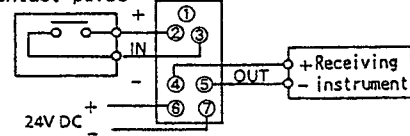

Fig. 12 Diagram 3
- ④ To receive current pulse by generating internal power supply, connect input cable to repeater terminals 1(+), 2(-). (See Fig. 12 : Diagram 3)
- ⑤ Connect repeater output cable to its terminals 4(+), 5(-).